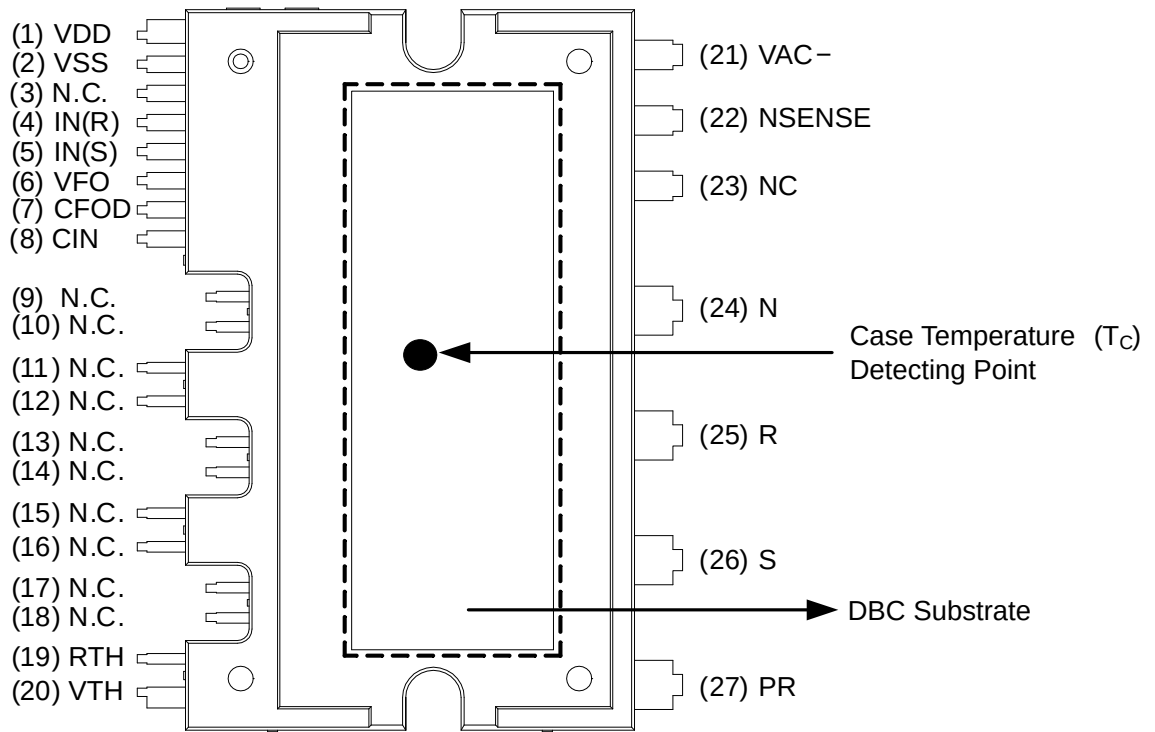

Figure 1. Pin Configuration – Top View
2. For the measurement point of case temperature (T_c), please refer to Figure 1. DBC discoloration and Picker Circle Printing allowed, please refer to application note AN-9190 (Impact of DBC Oxidation on SPM® Module Performance).